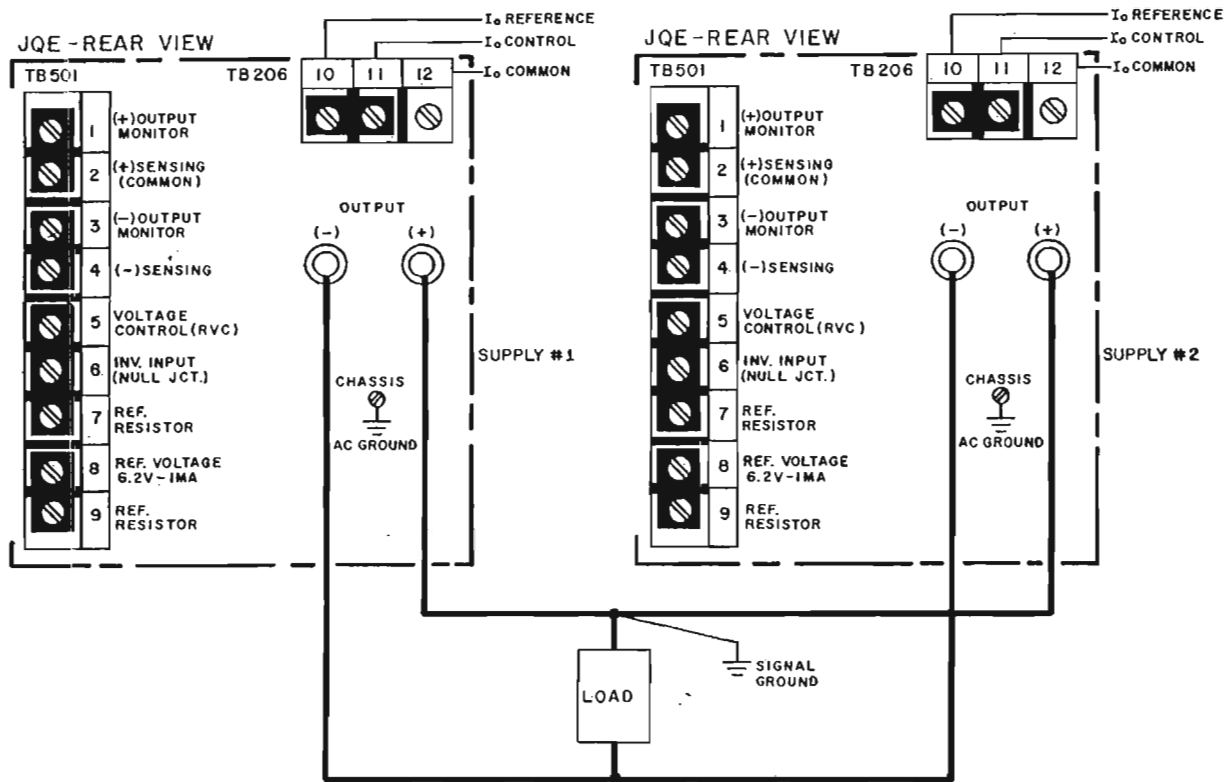

FIG. 3-21 BASIC PARALLEL CONNECTION OF TWO JQE POWER SUPPLIES
3-80 PROCEDURE FOR AUTOMATIC PARALLEL CONNECTION (See FIG. 3-21)
- 4) Make all load interconnections as shown in the connection diagram (refer to FIG. 3-21).